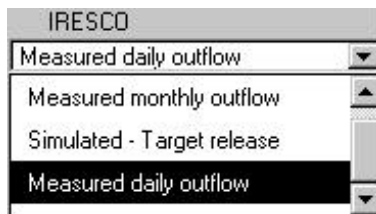

Figure 11.7
- i. **Daily Reservoir Outflow data.** If **Measured daily outflow** is selected from the **IRESCO** drop-down list (Figure 11.7), the user is required to create a data table containing the daily outflow information for the reservoir following the format specified for Reservoir Daily Outflow in Section 3.3.